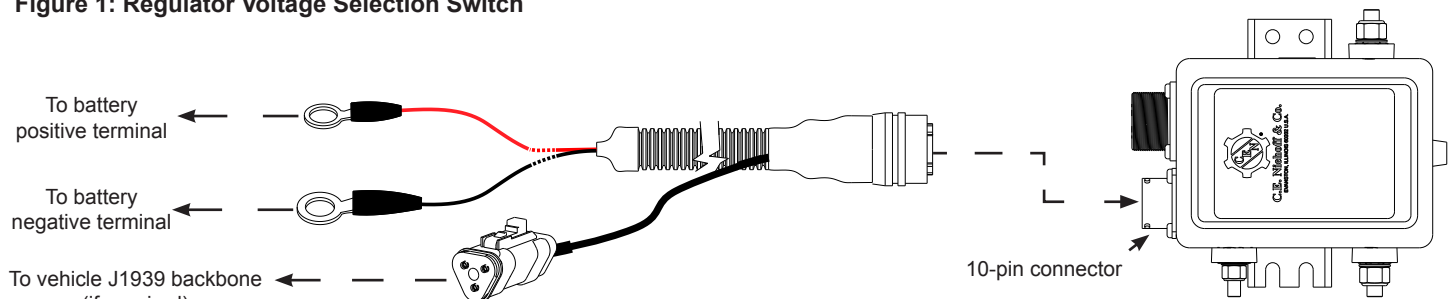

Figure 2: J1939/Temperature/Voltage Sense Harness Connections
3. Remove connector cap from regulator (if present) and securely plug J1939/Temperature/Voltage sense harness into regulator 10-pin connector. See Figure 2.